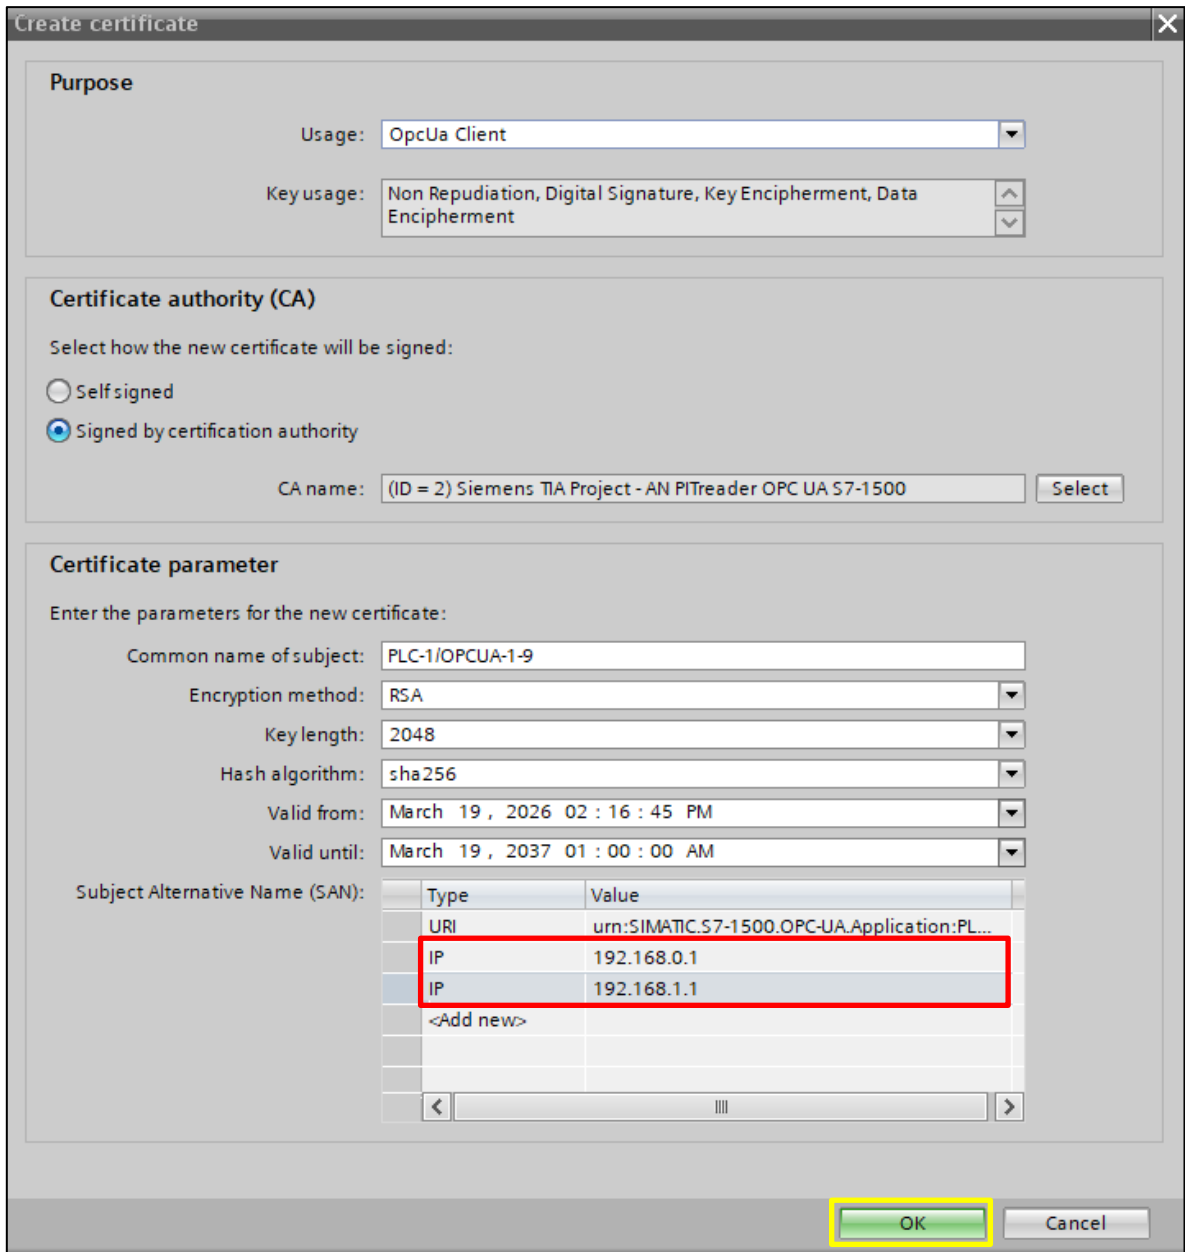

Figure 10: Create OPC UA Client certificate (3)
7. Set the parameters for the relevant OPC UA Client certificate in accordance with the parameters in Figure 10. If necessary, adjust the IP addresses (red square) and then confirm with "OK" (yellow square).